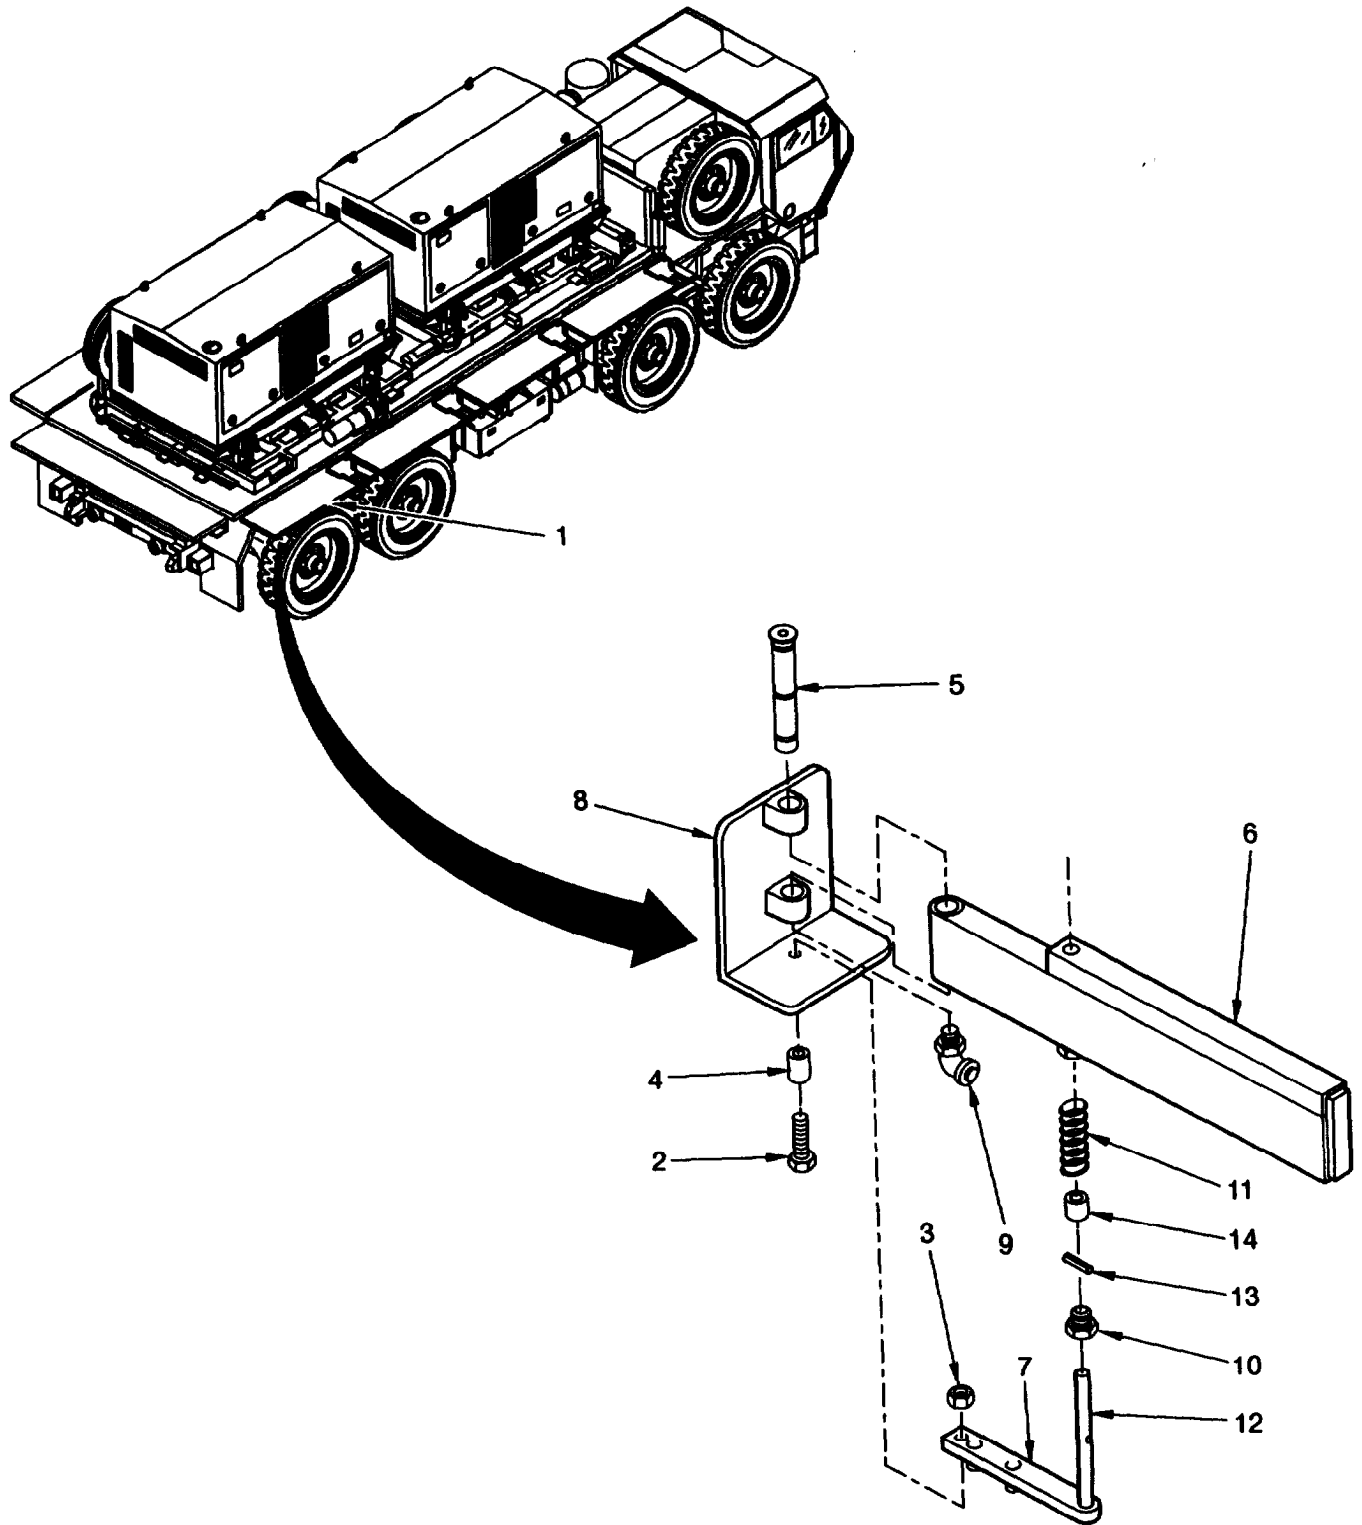

Figure 4-34 Swing Arm Maintenance.
- a. Move walkway (1, figure 4-34) in the up (stowed) position.
- b. Remove bolt (2) from nut (3) with spacer (4). Discard nut (3).
- c. Using a suitable pry bar, pry up on the washer welded to the top of pin (5).
- d. Remove grease nipple (9).
- e. Once pin (5) moves freely remove pin (5) from bracket (8).
- f. Remove swing arm (6) by depressing locking arm (7).
- g. Remove nut (10) with pin (13), spacer (14), spring (11) and pin (12).